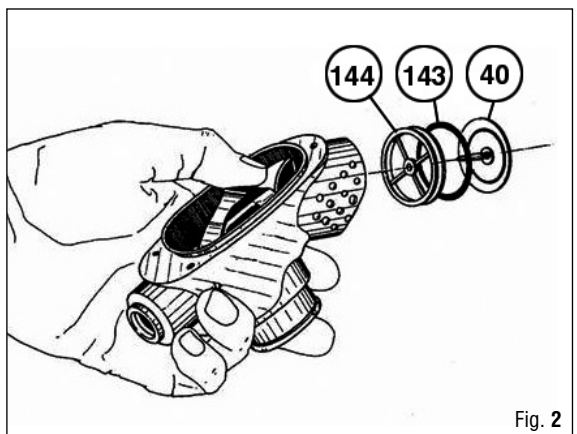

Fig. 2
13. Pressing from the inside of the second stage case (32), remove the exhaust valve holder (144) (Fig. 2).